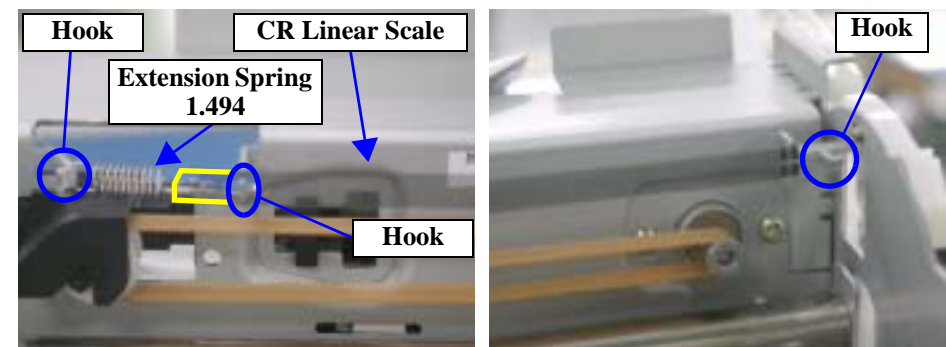

Figure 4-72. Removing the CR Linear Scale
Be fully careful when removing the Extension Spring 1.494 since pulling it more than necessary will elongate the Spring. Refer to Figure 4-72, "Removing the CR Linear Scale".
Refer to Figure 4-72, "Removing the CR Linear Scale".
- When reinstalling the CR Linear Scale, do not twist the leg of the Extension Spring 1.494. Refer to Figure 4-72, "Removing the CR Linear Scale".
- Reinstall the CR Linear Scale with the cut portion of its left end facing upward as viewed from the printer front. (To install its front and rear sides precisely) Refer to Figure 4-72, "Removing the CR Linear Scale".